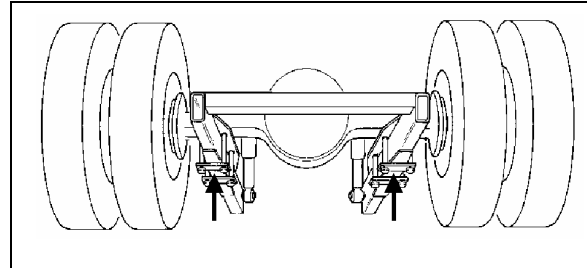
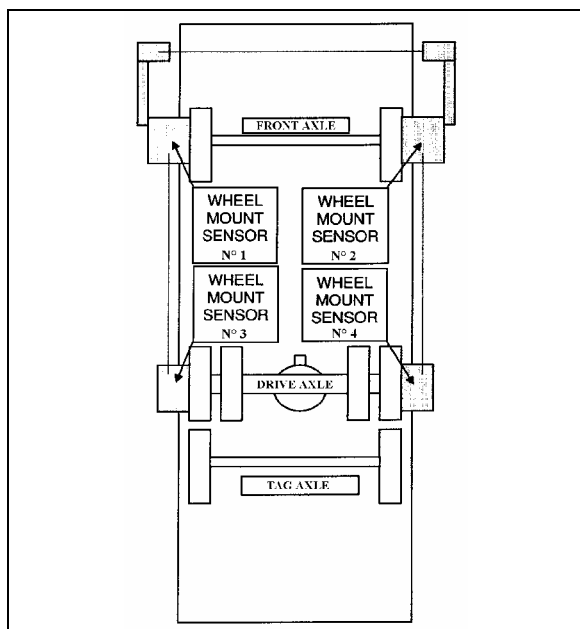

FIGURE 6: JACKING POINTS ON DRIVE AXLE H3B762
FIGURE 8: FRONT & DRIVE AXLE ALIGNMENT
8. Install jacks under the axle jacking points to support the axle weight (refer to figure 6).
- Remove and reinstall all wheel mount sensors on the drive and tag axles (fig. 8);
Reinstall wheel mount sensors as shown in figure 8. For example, the sensor from the right side of the front axle is mounted on the left side of the tag axle. For corresponding wheel mount sensor reference numbers, refer to figure 6.